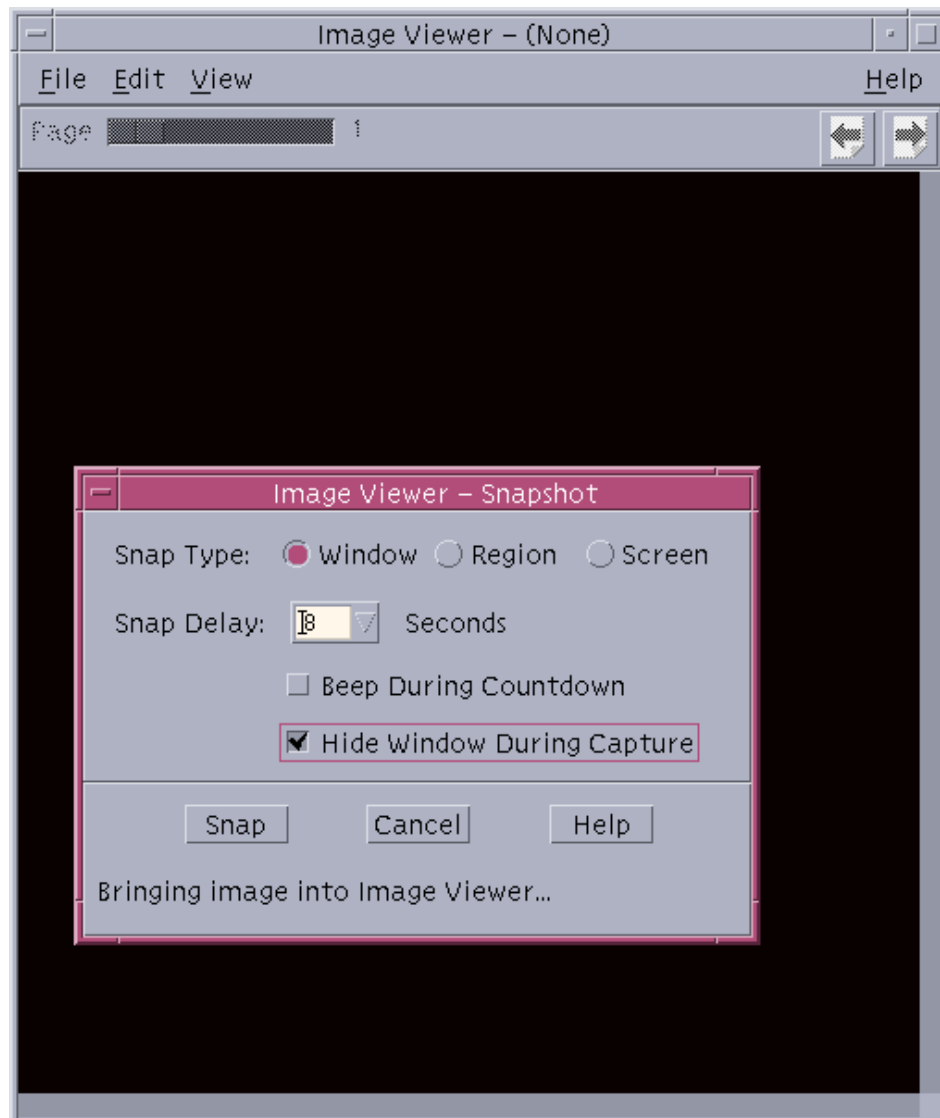

Figure 1 Image Viewer - Snapshot and blank Image Viewer before snapping any image.
4. Click on **Snapshot**. The two drop down menus will close and two new windows will open. The window titles are Image Viewer - Snapshot and Image Viewer - (None) (as shown in Figure 1). Once the selected window image is saved, None will be replaced by the filename.